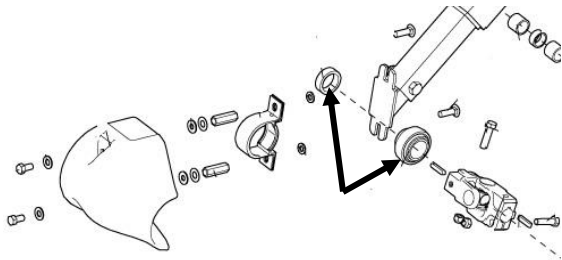

Figure 219
9. To install the auger, install the bearings and mounts on the auger. Support the center auger and secure each bearing with the bolts and nuts. Figure 219